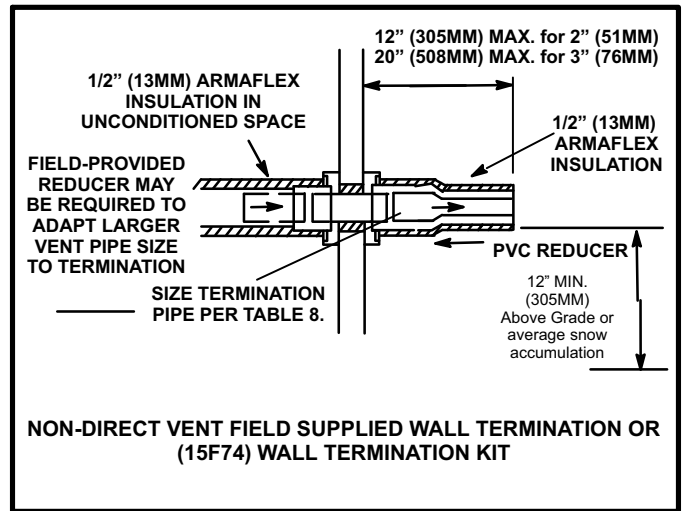

FIGURE 48
- 2 - On field supplied terminations for side wall exit, exhaust piping may extend a maximum of 12 inches (305MM) for 2" PVC and 20 inches (508MM) for 3" (76MM) PVC beyond the outside wall. See figure 48.